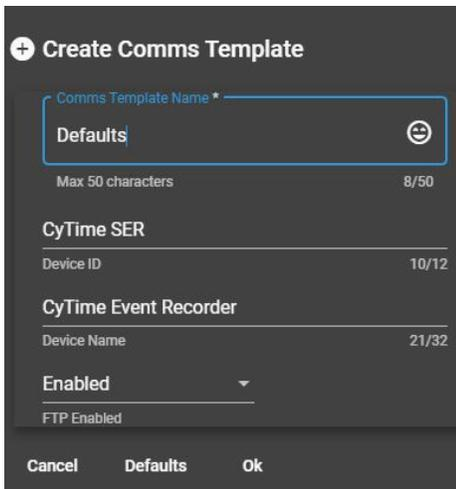

Figure 32. Create Comms Template
Step 7: Click the ‘Start Comms Update’ (Figure 32) to apply the template. You will see the status change from pending, to In progress, to Completed Successfully. You will notice the ‘Disable FTP’ template will be shown under the ‘Template’ column for each device the template was applied.